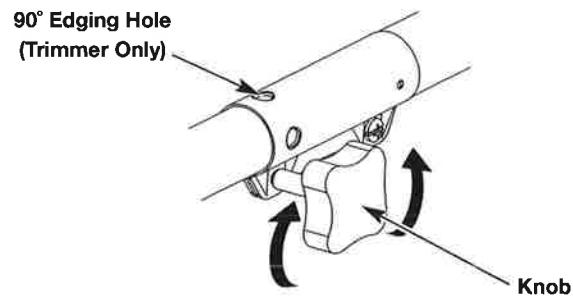
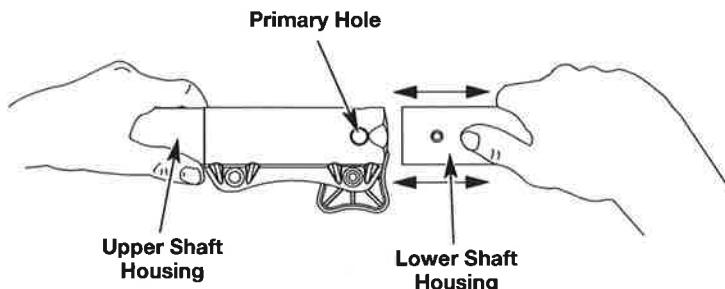

Fig. 2
Fig. 4
1. Turn the knob counterclockwise to loosen (Fig. 2).
2. While firmly holding the attachment, push it straight into the Convertible™ coupler until the release button snaps firmly into the primary hole (Fig. 4).
3. Turn the knob clockwise to tighten (Fig. 2).
CAUTION: Before operating this unit, be sure that the release button is fully snapped into the primary hole (Fig. 4), and that the knob (Fig. 2) is securely tightened.
For decorative edging with the line head trimmer attachment, lock the release button of the attachment into the 90° hole (Fig. 2).
3. While firmly holding the upper shaft housing, pull the attachment straight out of the Convertible™ coupler (Fig. 4).